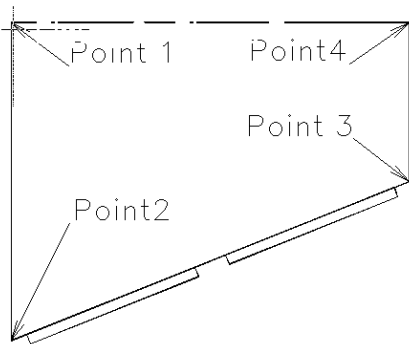

Figure 6
1. Here is a faster method of drawing counter top for odd shaped cabinets / kitchens. In plan view, turn off all unnecessary layers for these steps (except 0, 4, 5, and appliances if necessary). Make layer 0 the active layer, and draw a **LINE** (**V**) through all points on sides that will have the counter overhung. (Figure 6)